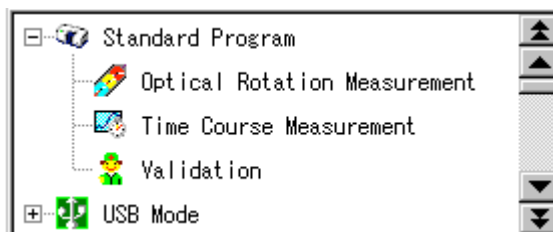

Figure 3.4 Program list window
- (5) Press the <Standard Program> icon to display the program list window shown in Fig. 3.4.